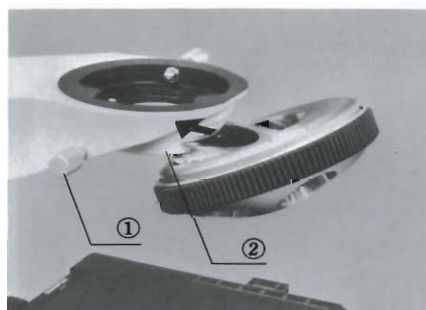

Fig. 2
- 1) Loosen the nosepiece clamping screw ①. (Fig. 2)
- 2) Aligning the nosepiece dovetail slide to the mounting block ②, push in the nosepiece slowly all the way.